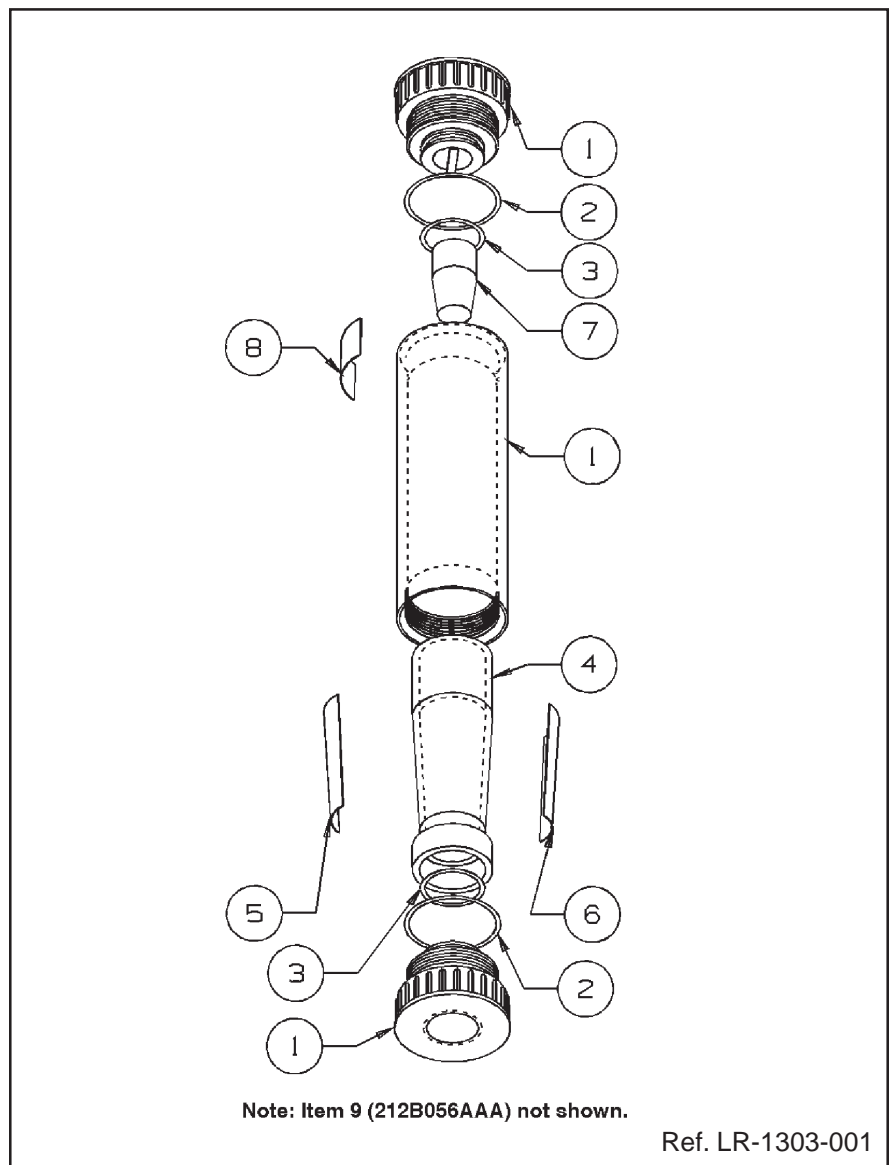

Figure 5-1 Model 1303 Exploded Parts Drawing
1. Remove the flowmeter from the piping. Refer to Figure 5-1.
2. Hold the outer housing (2) **DO NOT USE WRENCH**. Unscrew and remove one of the end fittings (1). Do not allow the tube (4) or the float (7) to drop when the end fitting is removed. If the float is damaged, the accuracy and sensitivity of the flowmeter may be impaired.
3. Using a suitable solvent, carefully swab the inside of the metering tube (4) and the float. Do not use solvent to clean the outer housing (1) which may be cleaned with a mild detergent and water solution.
4. Insure that the O-rings (2) and (3) are lightly lubricated with halocarbon grease.
5. Fully seat the tube (4) onto one end fitting, install the float, then screw the end fitting into the outer housing. Screw the other end fitting into the housing ensuring that the tube is concentric to the O-ring on the end fitting.
Refer to Figure 5-1 and Table 5-1.